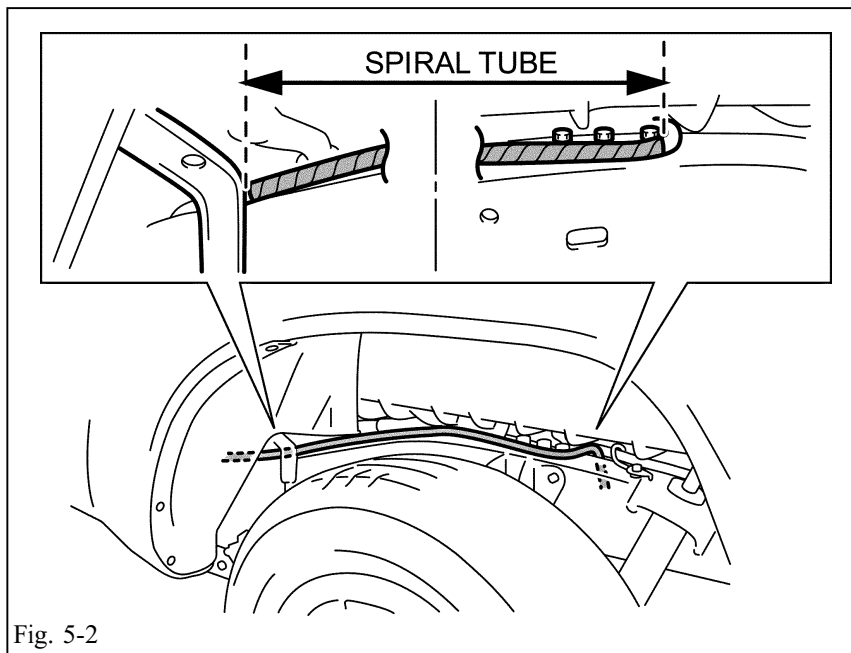

Fig. 5-2
- (1) Route the wire harness spiral tube to the position in the figure. (Fig. 5-2)